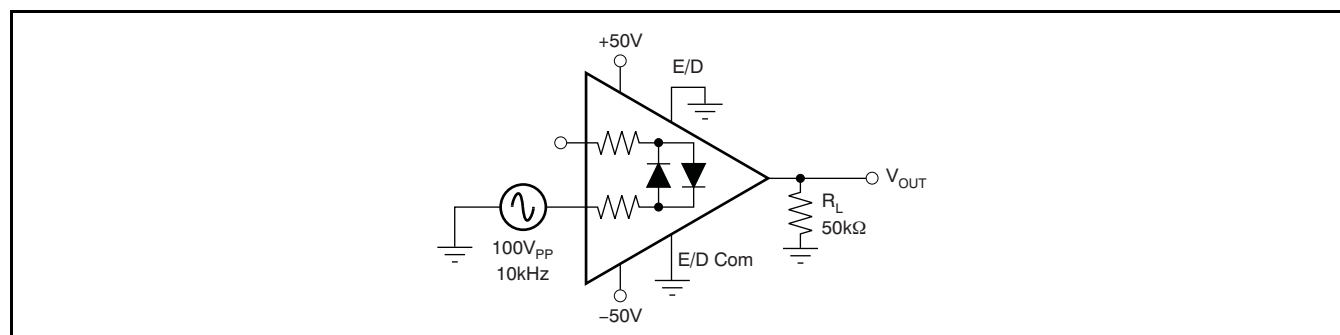
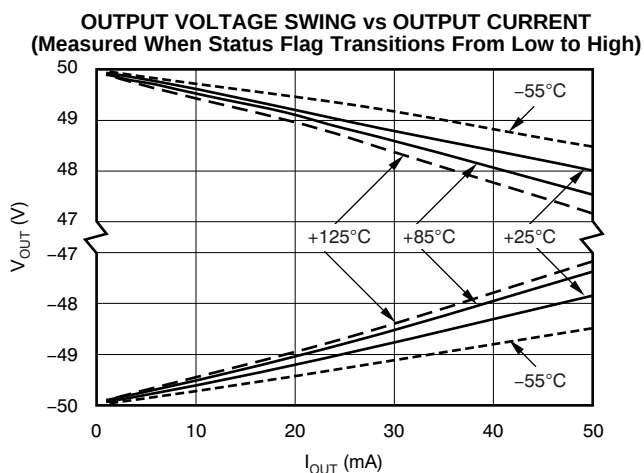
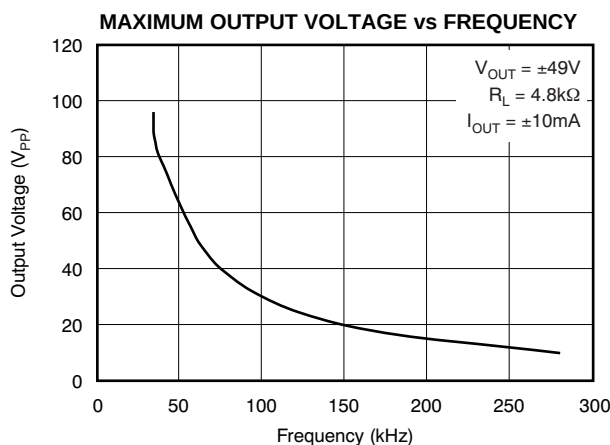
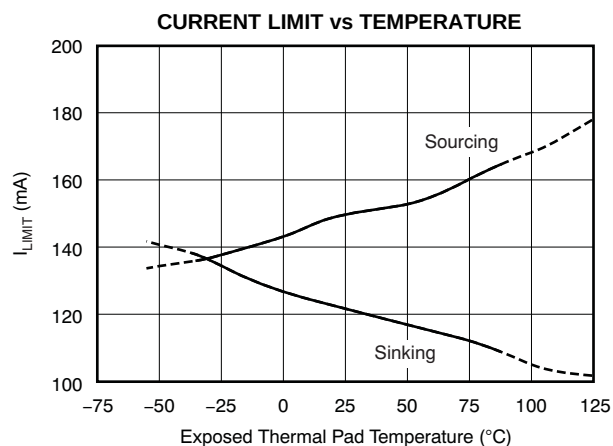

Figure 1. Feedthrough Capacitance Circuit
Figure 11.
Figure 12.
Figure 24.
(5) See Typical Characteristic curves.(6) See typical characteristic curve, *Maximum Output Voltage vs Frequency* (Figure 12).(7) See the Applications Information section, Settling Time.(8) Supplies reduced to allow closer swing to rails due to test equipment limitations. See typical characteristic curve *Total Harmonic Distortion + Noise vs Temperature* (Figure 30 and Figure 31) for additional power levels.(9) See typical characteristic curve, *Output Voltage Swing vs Output Current* (Figure 11).(10) Measured using low-frequency (<10Hz) $\pm 49V$ square wave. See typical characteristic curve, *Current Limit vs Temperature* (Figure 24).(11) Measured using Figure 1.(12) 100k Ω pull-up resistor to (V+). E/D common to (V–). Status flag indicates an over temperature or over-current condition.(13) See Typical Characteristic curves for current limit behavior.